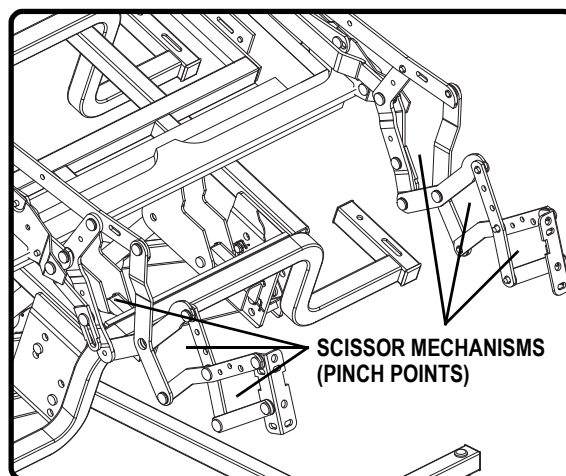

Figure 3.4 Scissor Mechanism
**Scissor Mechanisms:** Extend or retract to take the riser recliner through the various stages of recline (Fig. 3.4).